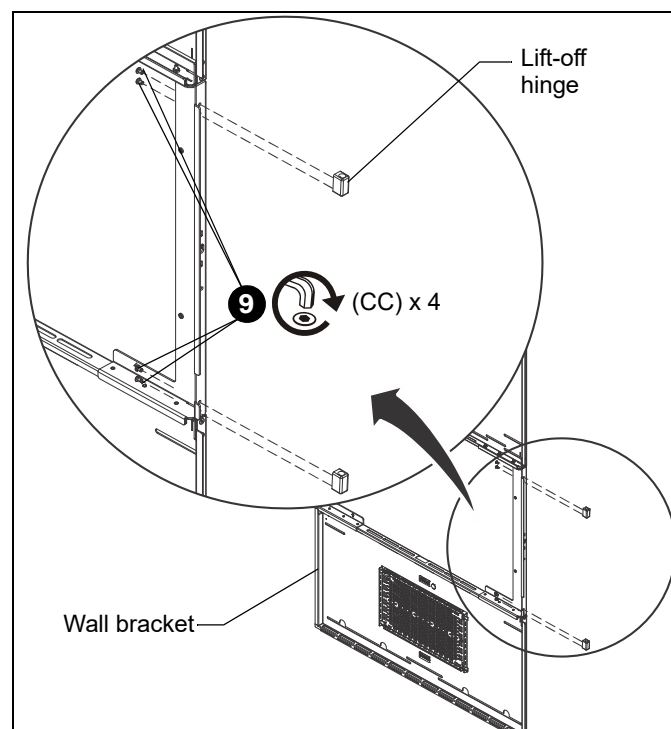

Figure 17
8. Move the lift-off hinges to the right side of the wall bracket. (See Figure 17)
9. Fasten in place with four (two each hinge) **NEW** 10-32 x 5/16" button head cap screws (CC). (See Figure 17)